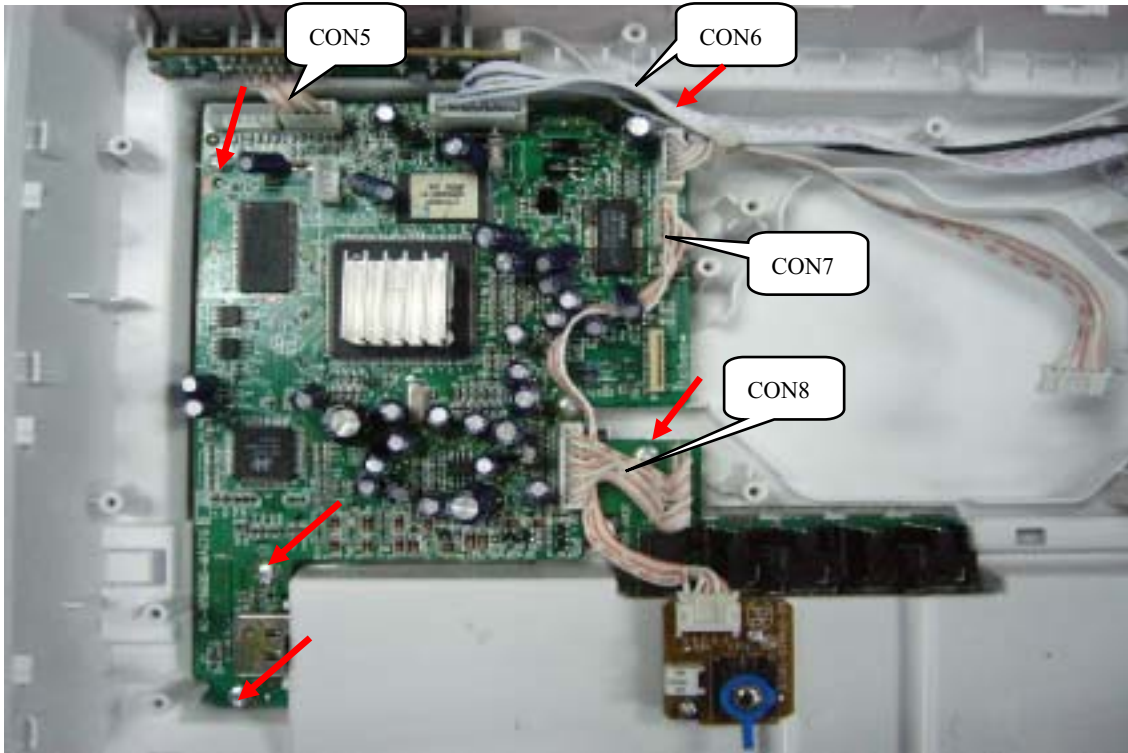

Figure 9
Step6: Dismantling Main Board, first disconnect the 4 connectors, and then remove 5 screws. (Figure 9)